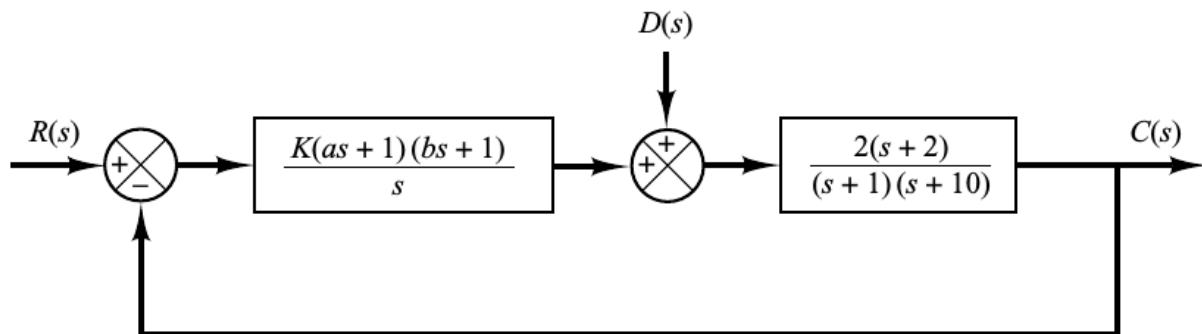

Figure 8-71
3) B-8-2. Consider the system shown in Figure 8-71. Assume that disturbances $D(s)$ enter the system as shown in the diagram. Determine parameters K , a , and b such that the response to the unit-step disturbance input and the response to the unit-step reference input satisfy the following specifications: The response to the step disturbance input should attenuate rapidly with no steady-state error, and the response to the step reference input exhibits a maximum overshoot of 20% or less and a settling time of 2 sec.